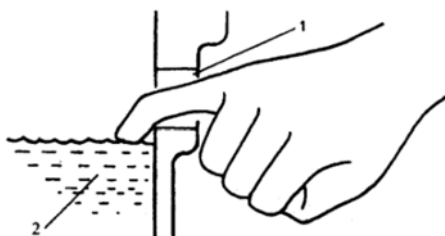

Fig. 1.4-16
3) Dismount the filler plug. When inserting fingers into the filler, you can know the oil level approximately. If the oil level is close to the filler, showing that the oil filling is proper, as shown in Fig. 1.4-16.